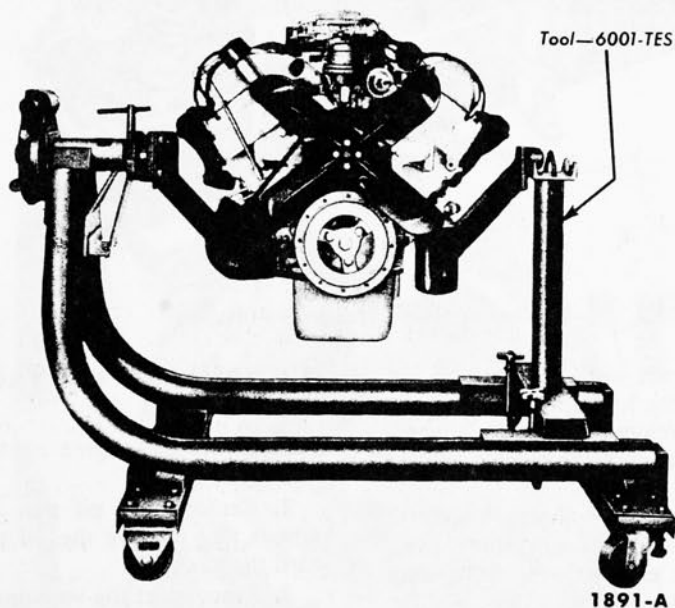

FIG. 10—Engine Work Stand
11. Remove the converter to flywheel retaining nuts. Remove the transmission oil level filler tube from the right exhaust manifold. Remove the transmission throttle control rod at the accelerator cross shaft bracket. Secure the transmission to a transmission jack. Remove the flywheel housing to engine retaining bolts. Remove the flywheel housing, transmission, and the oil cooler lines as an assembly. Install the engine on a work stand (Fig. 10).